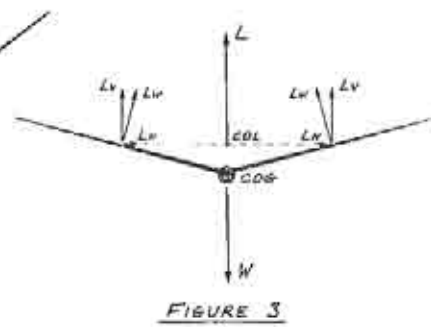

FIGURE 3
That's not the case with a dihedral plane (Figures 3 and 4). I know, Bunky, Figure 3 looks complicated, but bear with me and I'll try to explain it. Each wing generates lift perpendicular to its surface (Lw). Each Lw, in turn, is composed of a vertical component (Lv) and a horizontal one (Lh). The vertical components, added together, constitute the total lift on the plane (L).